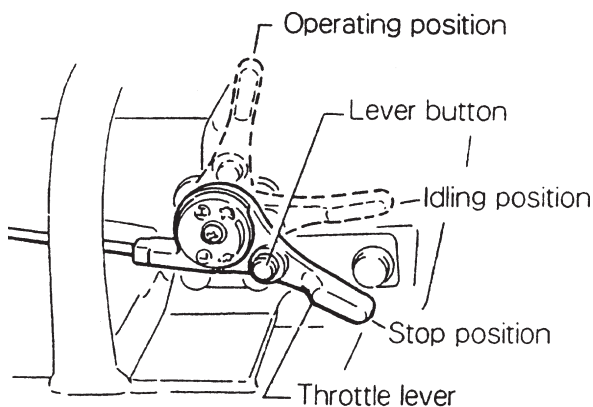

Figure 5. Throttle Lever
1. Move the throttle lever to IDLE position. (See Figure 5).